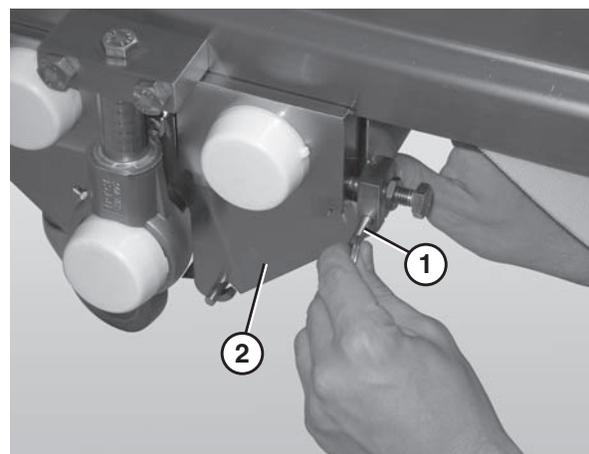

Figure 15
2. Remove the 2 pull pins (Figure 15, item 1) from the center drive side plate (Figure 15, item 2).
11. Insert the pull pins (**Figure 15, item 1**).